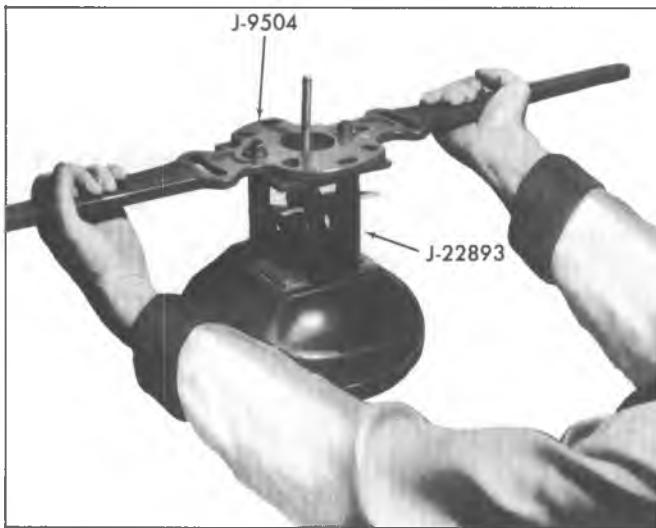

Fig. 5-4C--Separating Tilt Bracket Type Housings
- c. **Tilt Mounting Bracket Except Chevelle (Fig. 5-4C)** - Place Tool J-22893 inside tilted mounting bracket. Place Spanner Wrench J-9504 on top of J-22893 and tighten nuts and washers securing spanner wrench.